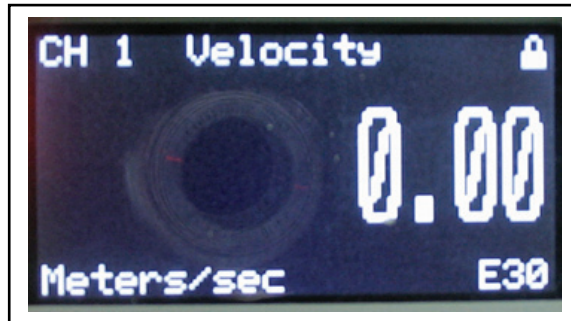

Figure 43: Screen with locked program
5. Press [ESC] to return to the User Program, or continue pressing [ESC] to return to the display screen. If you have chosen to fully lock the **Sentinel LCT4**, the screen appears similar to *Figure 43* below, with a solid lock in the upper right corner. (For a meter with only the user program locked, the lock shows a keyhole in the center.)